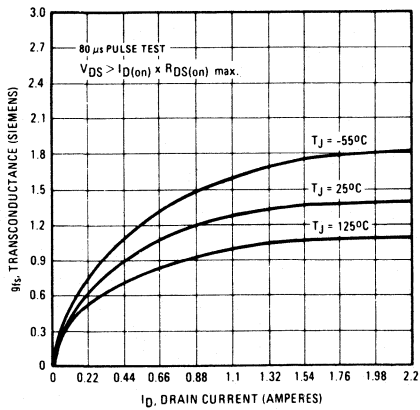

Fig. 5 — Typical Transconductance Vs. Drain Current
- Repetitive Rating: Pulse width limited by max. junction temperature. See Transient Thermal Impedance Curve (Figure 5).